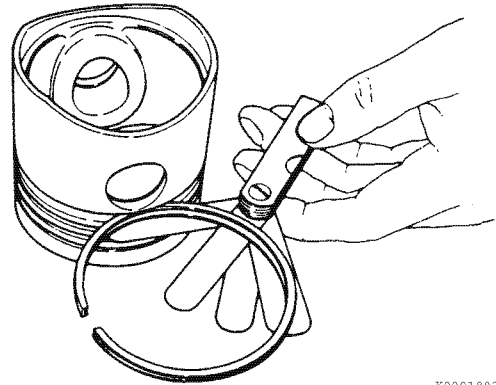

Figure 6-67
9. Place each compression piston ring in the groove as shown (Figure 6-67). Use a feeler gauge to measure the clearance between the piston ring and the piston ring land. Record the measurements. See *Piston Ring on page 6-10 for specifications*. Replace the piston if not within specification.